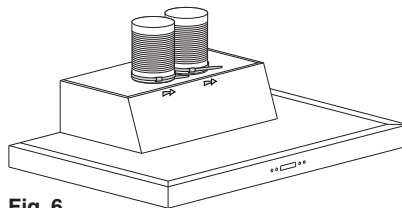

Fig. 6
7. Install flue/ductwork and make sure it is pulled taut with no creases to maximise airflow. See figure 6.